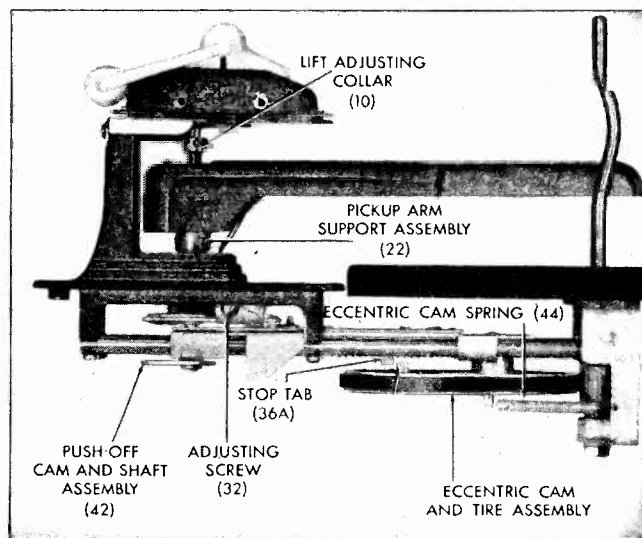

FIGURE 4.
This changer is designed so that the 10-inch set-down point, the 12-inch set-down point, and the pickup or trip point are simultaneously adjusted in a single operation. It is recommended that you make the adjustment at either of the set-down points. This adjustment is made by means of the adjusting screw (32) shown in Fig. 4. Turning this screw counter-clockwise will cause the arm to set down closer to the centerpost; turning it clockwise will cause the arm to set down further away from the centerpost. One turn on the screw will move the arm about $\frac{1}{4}$ inch.